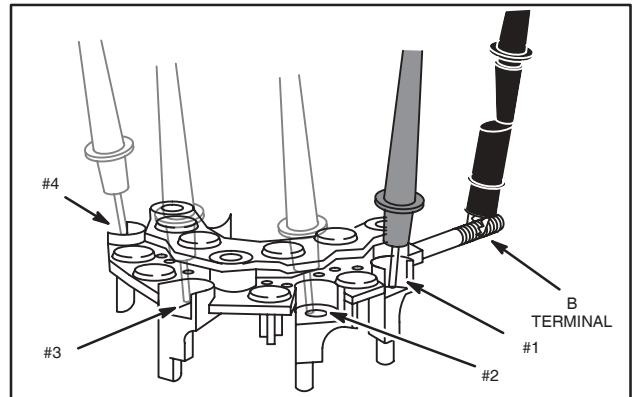

Fig. 35 – Check Rectifier
1. Attach BLACK meter test lead to “B” terminal, Fig. 35. Leave attached through Step 3.
2. Contact #1 terminal with RED meter test lead, Fig. 35.